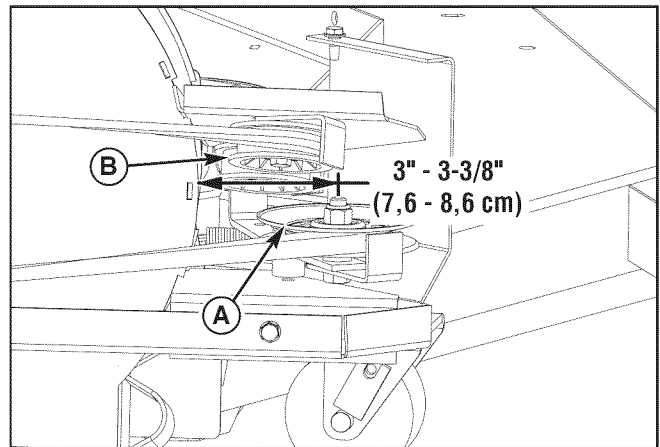

Figure 29. Check Belt Tension
3. Check the belt tension by measuring the distance from the center of the v-idler pulley (A, Figure 29) mounting bolt and the blower housing. This should measure between 3 - 3-3/8" (7,6 - 8,6 cm).
4. If measurement falls outside of this range, you must move the idler pulley (B) either forward or back to achieve the proper belt tension.